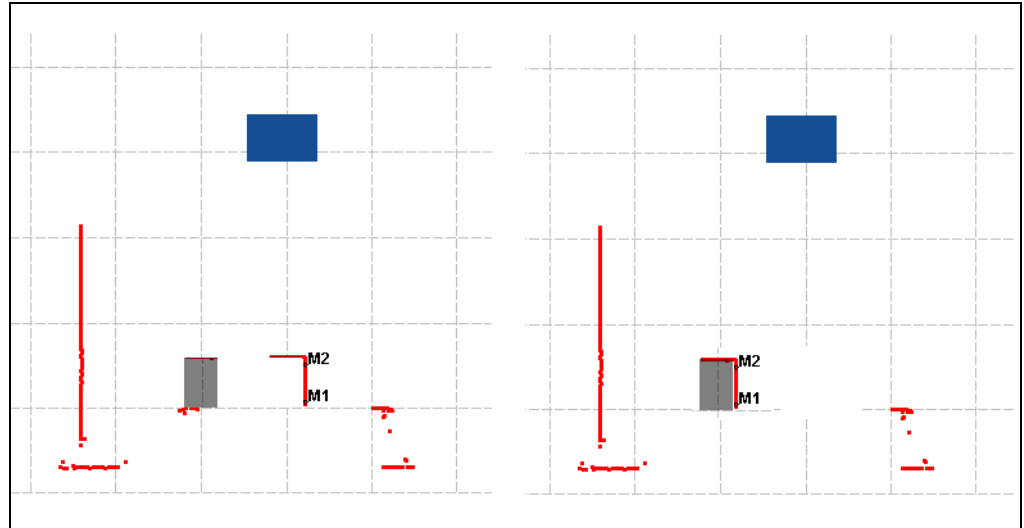

Fig. 40: Scanned test object
- Define on the scan line which part of the surrounding contour on the right side corresponds to the object. For this purpose position two marks using the right mouse button (see Fig. 40, part 1).
The assistant now wraps the scan line around the test object (see Fig. 40, part 2) and calculates the distance from the LMS400 to the zero point and therefore its y coordinate.